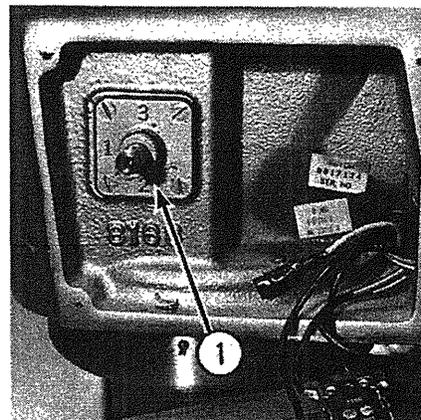

Fig. 3-10
- I. Remove four screws holding shifter assembly (1, Fig. 3-10) and remove the assembly.
- I. Install shifter control and index plate (Fig. 3-10).